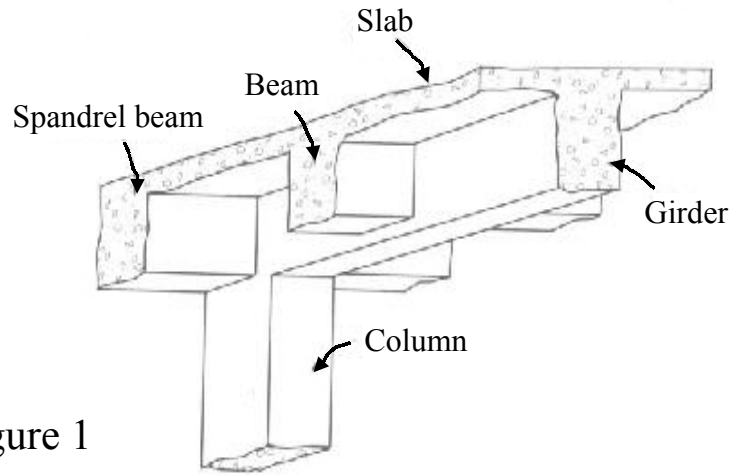

Figure 1
- The typical monolithic structural system is shown in Fig. 1.